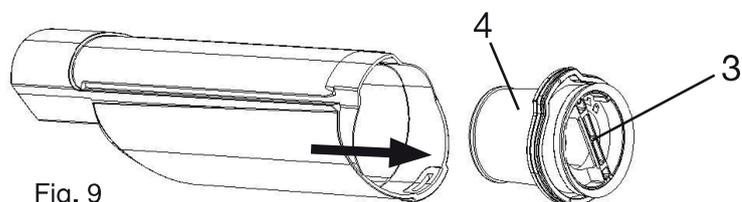

Fig. 9
Stand above a bin and pull on the tab (3) (Fig. 9) to extract the filter unit (4) (Fig. 9).